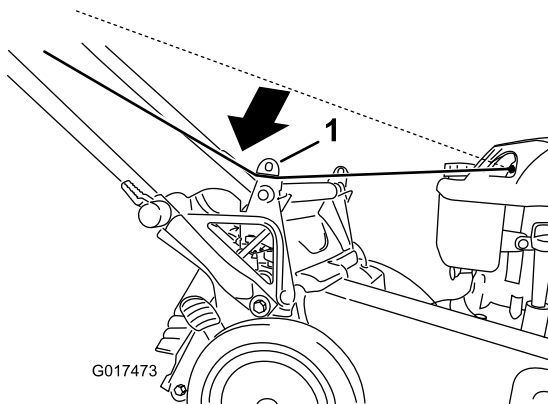

Figure 25
1. Route the starter rope around the lower-rope guide (Figure 25).